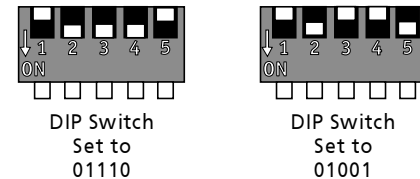

Figure 9e
3. Change the DIP switch settings, assuring that they are different from the previously installed fan. Refer to Figure 9e.